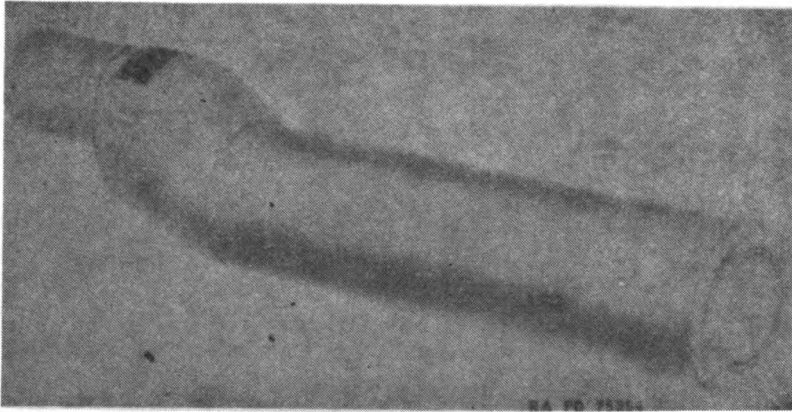

Figure 2—Observation Telescope M49
a. Observation Telescope M49 (fig. 2) is a 20-power telescope having a field of view of 2 degrees 12 minutes and an exit pupil diameter of 0.108 inch. The image is erected by a porro prism system. The over-all length of the telescope is approximately 14½ inches.